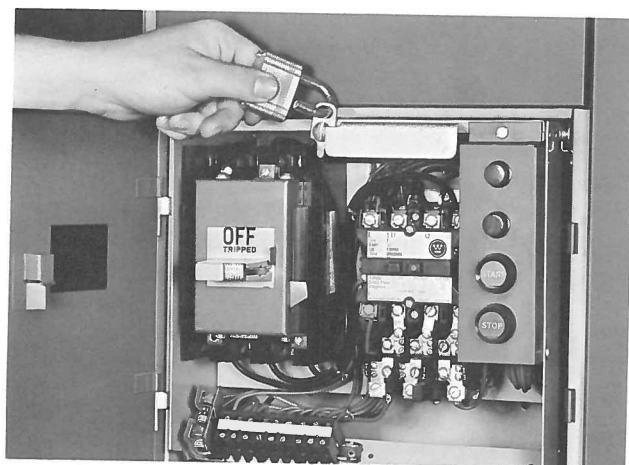

Fig. 18 Padlock of Unit Disconnect Position
6. Relatch the unit in this position by turning the latch assembly another quarter-turn counterclockwise into the slot in the pan above. It may be padlocked in this disconnected position if desired (Figure 18).